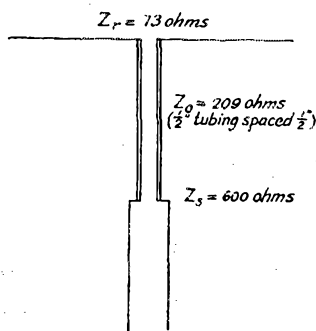

Fig. 5 — The "Q" matching section used between a half-wave antenna and a 600-ohm line.
In the case of an antenna system (see Fig. 5)  $Z_a$  is the characteristic impedance of the transmission line,  $Z_r$  is the impedance of the antenna, and  $Z_o$  is the characteristic impedance of the quarter-wave matching section. If  $l$  had been assigned a length of  $3\lambda/4$ ,  $5\lambda/4$ , or any odd quarter wavelength, the result would have been the same as that of equation (15) — in other words, any odd quarter wavelength of line may be used as an impedance-matching transformer.